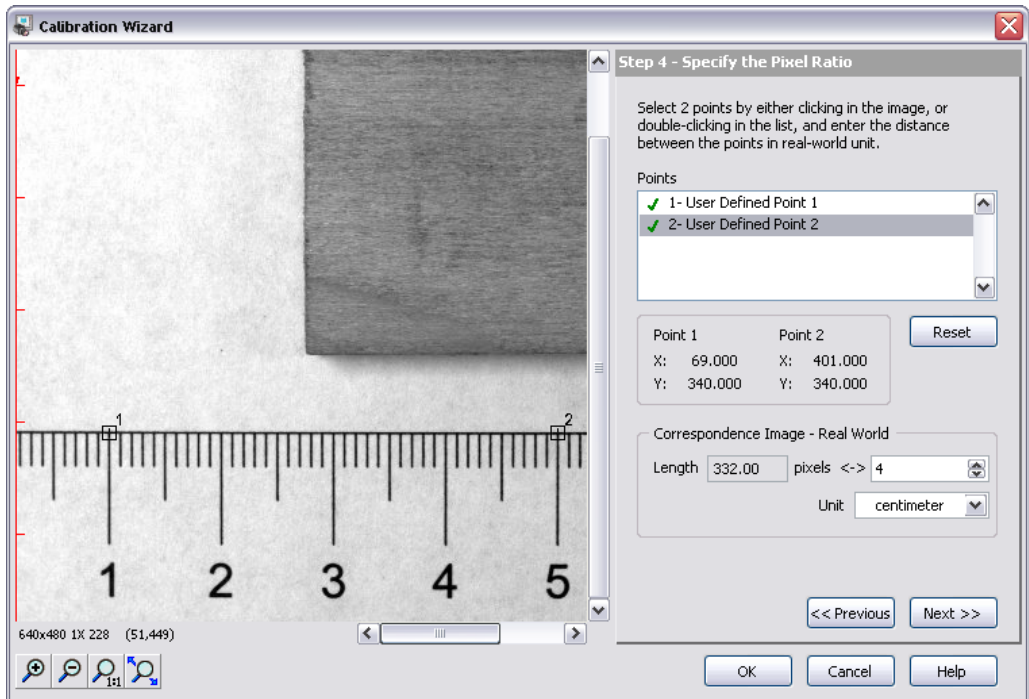

Figure 5-1. Defining the Pixel to Real-World Ratio
16. In the **Specify the Pixel Ratio** step, carefully click the 1 cm and 5 cm markings on the ruler at the bottom of the image, as shown in Figure 5-1.